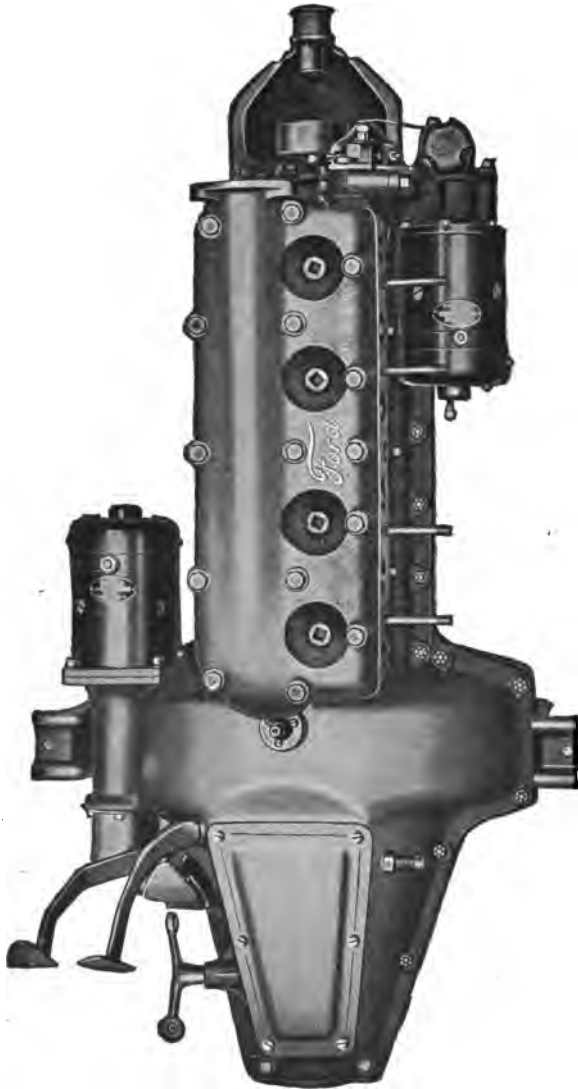
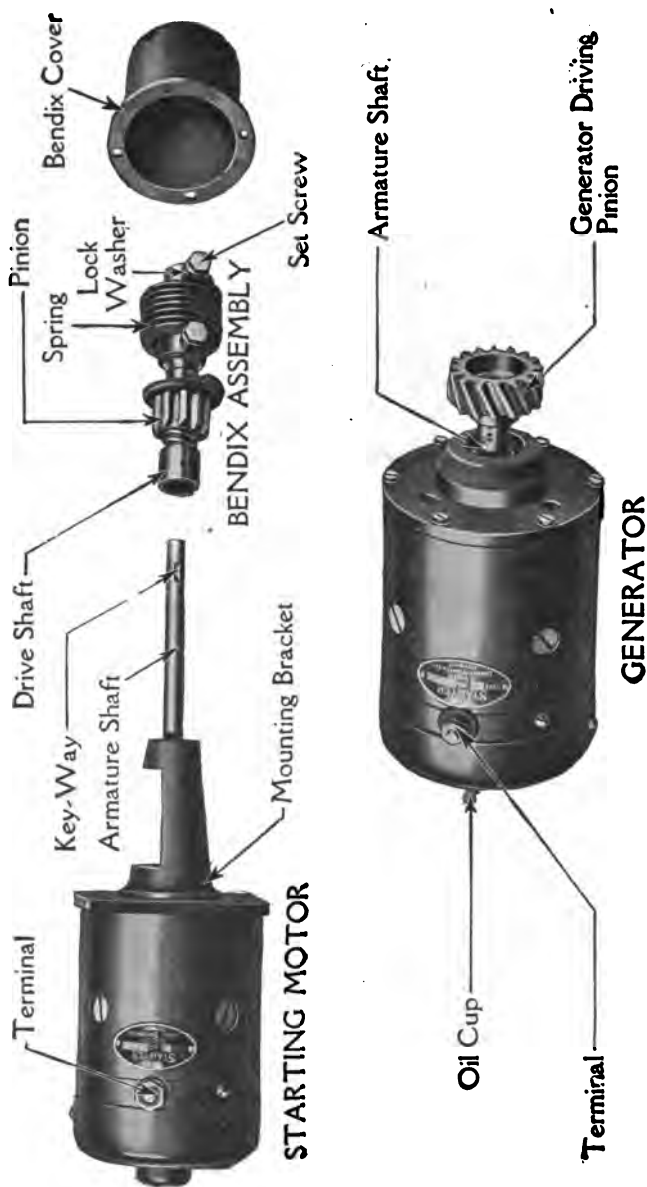
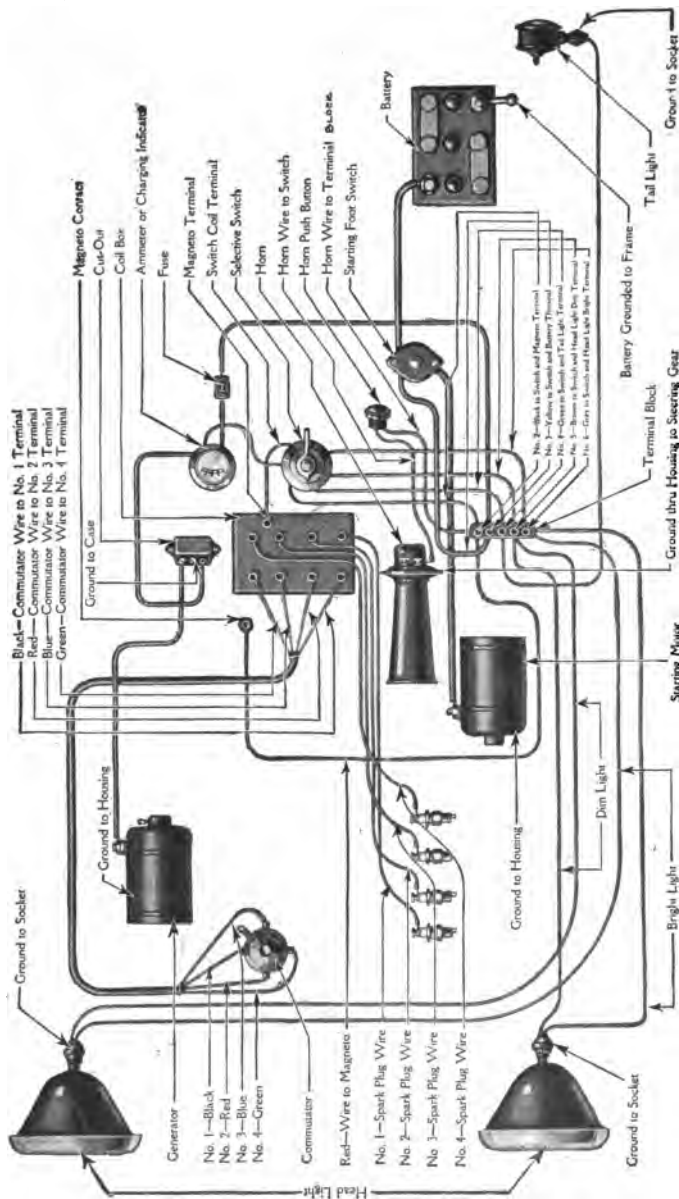

Fig. 367. Top View of Model T Motor, Showing Starter and Generator in Position
Fig. 368. Starter and Generator Units
Fig. 369. Wiring Diagram Sedans and Coupes]
**General Instructions.** On the latest model enclosed Ford cars such as the sedan and the coupé, an electric lighting and starting system is now being furnished as a regular part of the equipment. As will be noted by the illustration, Fig. 367, this has been designed especially for the Ford motor and is combined with it in a manner that makes it practically integral. The system is a standard two-unit six-volt single-wire type that is of conventional design throughout so that any repairman who is familiar with the other system previously described will at once recognize the layout of the Ford system and have no difficulty in handling it. The details of the generator and starting motor are shown in Fig. 368, while the complete wiring diagram is illustrated in Fig. 369. The battery is a 6-volt 13-plate Exide.
**Removal of Starting Motor.** It is necessary to remove the starting motor to replace the transmission bands. To do this, first remove the engine pan on the left side of the engine and then take out the four small screws holding the shaft cover to the transmission cover. Upon removing the cover and gasket, turn the Bendix driveshaft around so that the set screw on the end of the shaft is in the position shown in the illustration, Fig. 368. Immediately under the set screw is placed a washer of the locking type, having lips or extensions oppositely placed on its circumference. One of these is turned against the collar and the other is turned up against the side of the screw head. Bend back the lip which has been forced against the screw and remove the set screw. A new lock washer of this type must be used when replacing the starting motor.